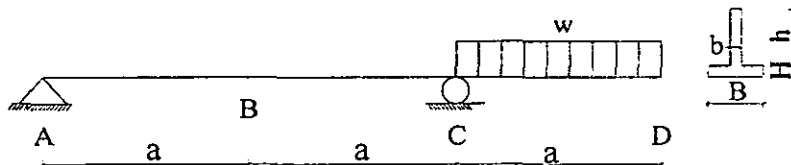

Fig. 1
- (c) The beam in Fig. 1 carries a uniformly distributed load intensity w of 7500 N/m over the overhang. If the overall length of beam is 1.5 m and the cross-sectional dimensions B , H and h are respectively 100 mm, 5 mm and 20 mm, calculate the following: